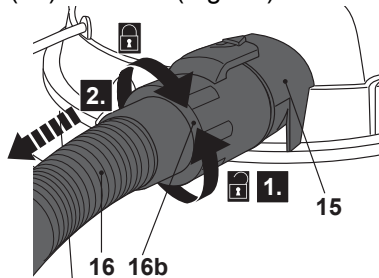

Fig. 15
- > Rotate the hose connector (16b) anticlockwise and pull it from the air outlet (15) to disconnect the hose (16) after use (Fig. 15).